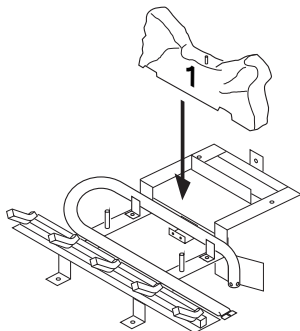

Figure 41 - Installing Log No. 1
1. Place log #1 (rear log) on top of grate. Make sure the notches in the bottom of the log fit over the grate (see Figure 41, page 26).